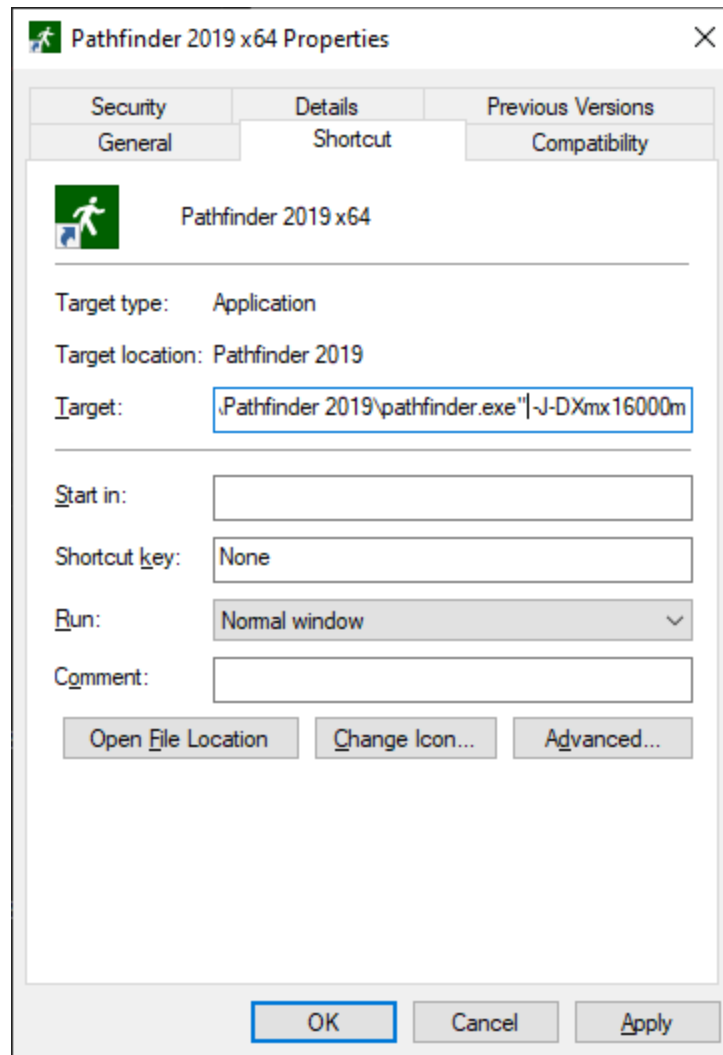

Figure 146. Example Shortcut Dialog
4. At the end of the **Target** field, type a space on the keyboard and then `-J-DXmx16000m`. The shortcut dialog will look similar to Figure 146.